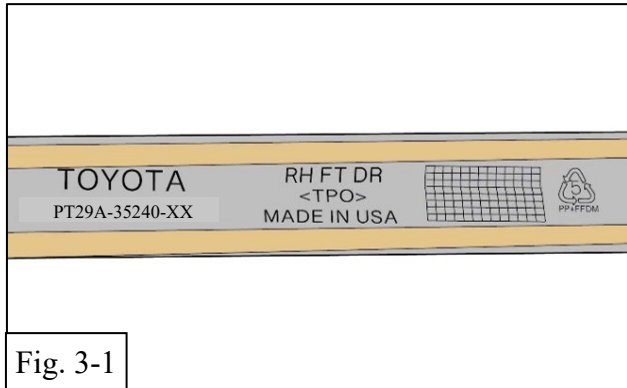
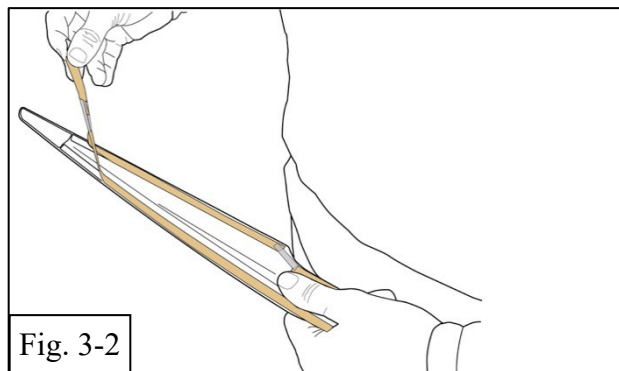

Fig. 3-1
Fig. 3-2
- a. On the inside of each of the four moldings is identified as to their correct position on the vehicle (Fig. 3-1). Start with the RH front door molding. While carefully holding the molding by its edges, pull the plastic tape at the end of the part to remove the orange release liner from the black acrylic foam tape strips. (Fig. 3-2).